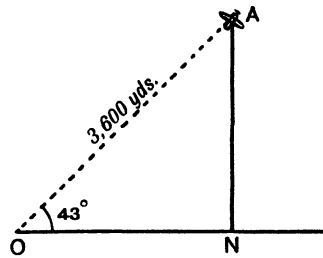

FIG. 101. DIAGRAM FOR EXAMPLE 3
3. A searchlight at O catches an enemy aeroplane in its beam when the beam is inclined at 43° to the horizontal. At the same time the 'plane's distance is found, by a rangefinder, to be 3,600 yd. from O. If N is the point immediately under the 'plane when it was sighted, find the distance of N from O, Fig. 101.